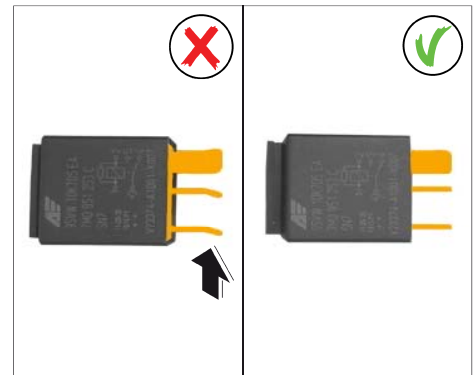

Figure 2
**If one of the flat plugs on the relay is bent ⇒ *Figure 2 -arrow-*, the relay **must be replaced**.**